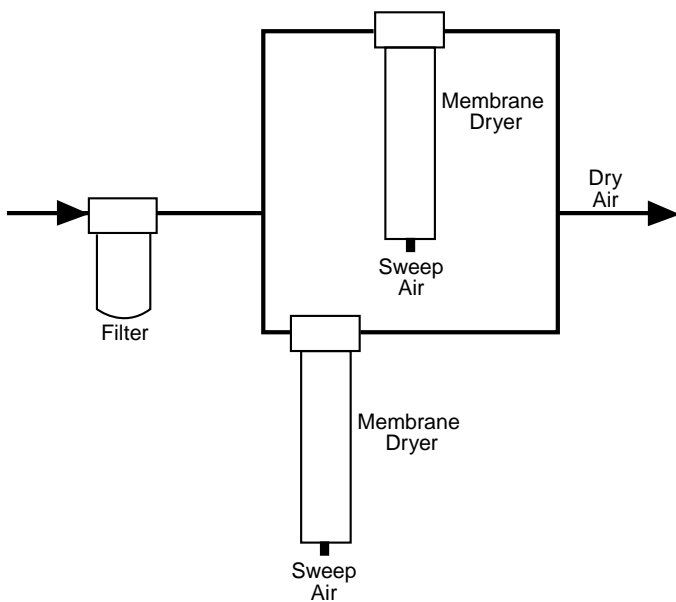

Figure 2.2
7. Multiple Dryers for Higher Capacities - Multiple dryers in parallel (see Figure 2.2 ) can be used to increase capacity beyond that available with a single dryer. All the dryers should be the same model. It is not necessary to provide any mechanism to balance flows between the dryers. Installing prefilters upstream is preferred (for pressure-drop balance and cost). Size prefilters for the combined flow. Figure 2.2 does not show valves that could be used to isolate one dryer; valves are not recommended, but if used, identical valves and configuration must be used for all dryers.